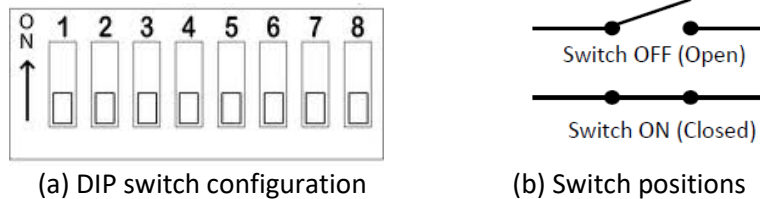

Figure 2. DIP (Dual In-line Package) Switches
**Switches:** A switch is used to manually connect the input of a gate to a HIGH or LOW voltage. For this lab we will use DIP (dual in-line package) switches, shown in Figure 2. There are 8 independent switches per DIP, labeled 1 to 8 as shown in Figure 2(a). As illustrated in Figure 2(b), in the ON position, the switch is closed, producing a short circuit between its contacts; in the OFF position, the switch is open, producing an open circuit between its contacts. To produce digital HIGH and LOW values, we connect one contact of each switch to ground (0 V) and the other contact to a pull-up resistor, with the other end of the resistor connected to 5 V, as shown in Figure 3. When the switch is OFF (open), the resistor pulls the line up to a HIGH state (hence the name “pull-up resistor”). When the switch is ON (closed), the output line will be connected to ground, and therefore the line will be in the LOW state. Instead of individual resistors, we will use a packaged resistor network, shown in Figure 4, which contains nine 330 ohm resistors. As shown in Figure 4(b), one side of each resistor is connected to a common bus (wire), which connects to pin 1 of the package. Pin 1 is indicated by a triangle on the package, as can be seen in Figure 4(a).